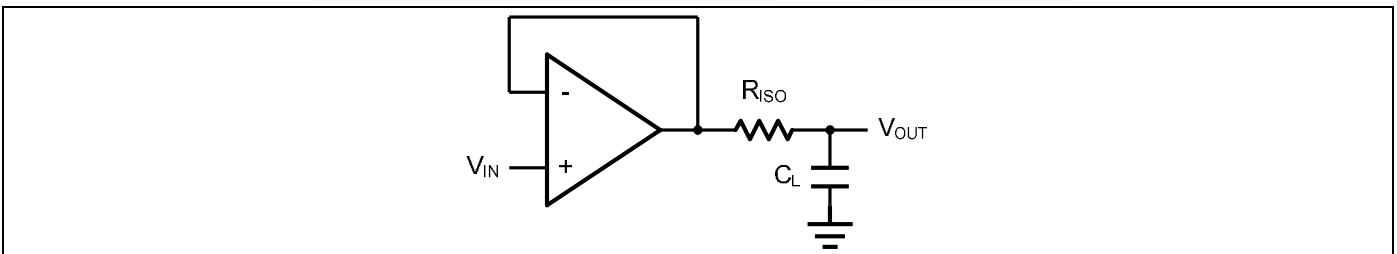
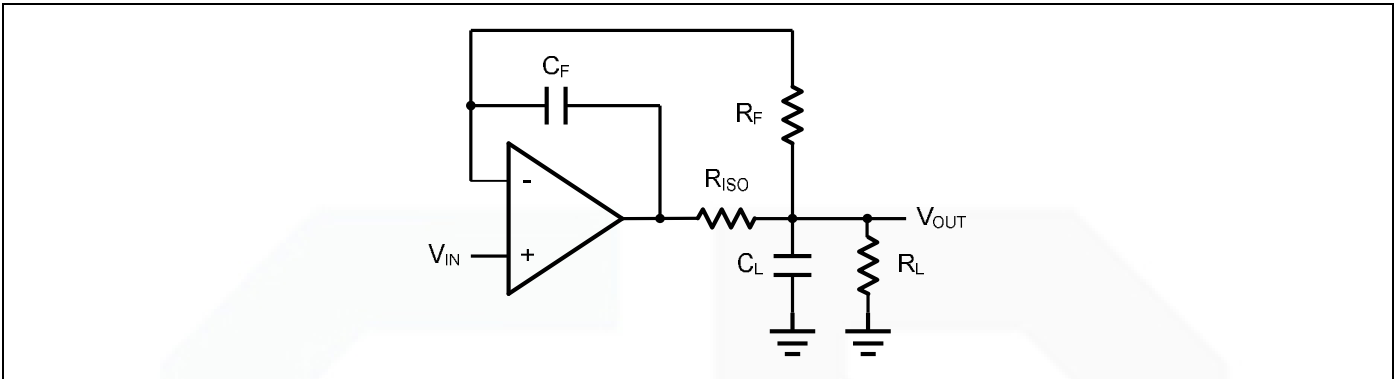

Figure 2. Indirectly Driving a Capacitive Load Using Isolation Resistor
Figure 3. Indirectly Driving a Capacitive Load with DC Accuracy
The GS872X family is optimized for bandwidth and speed, not for driving capacitive loads. Output capacitance will create a pole in the amplifier's feedback path, leading to excessive peaking and potential oscillation. If dealing with load capacitance is a requirement of the application, the two strategies to consider are (1) using a small resistor in series with the amplifier's output and the load capacitance and (2) reducing the bandwidth of the amplifier's feedback loop by increasing the overall noise gain. Figure 2. shows a unity gain follower using the series resistor strategy. The resistor isolates the output from the capacitance and, more importantly, creates a zero in the feedback path that compensates for the pole created by the output capacitance.
The circuit in Figure 3 is an improvement to the one in Figure 2.  $R_F$  provides the DC accuracy by feed-forward the  $V_{IN}$  to  $R_L$ .  $C_F$  and  $R_{ISO}$  serve to counteract the loss of phase margin by feeding the high frequency component of the output signal back to the amplifier's inverting input, thereby preserving the phase margin in the overall feedback loop. Capacitive drive can be increased by increasing the value of  $C_F$ . This in turn will slow down the pulse response.